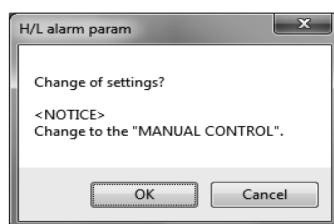

Fig.68
- ⑤ After all settings are complete, click the "OK" button to display a message box (Fig. 68). Click "OK" here to change the settings to the inputted values, and to reflect the changed setting values in the flowmeter's output. For the sake of safety, if the flowmeter's output is used to control valves or other such parts, then change that control loop to manual control so that the control loop is not influenced by the flowmeter's output.